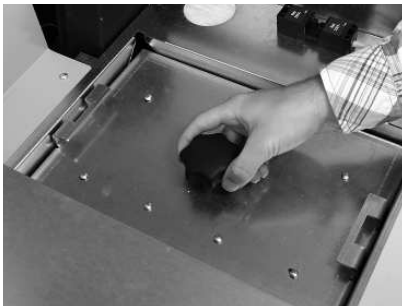
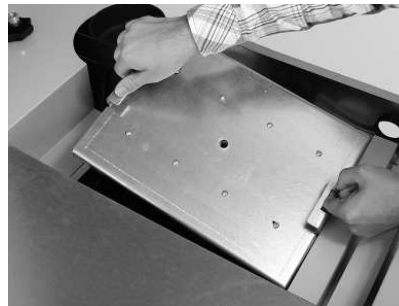

Fig. 54 Unscrew the screw connection
Fig. 55 Lift off the cover
- ▶ Unscrew the screw connection on the cover and lift the cover out – Fig. 54, Fig. 55.